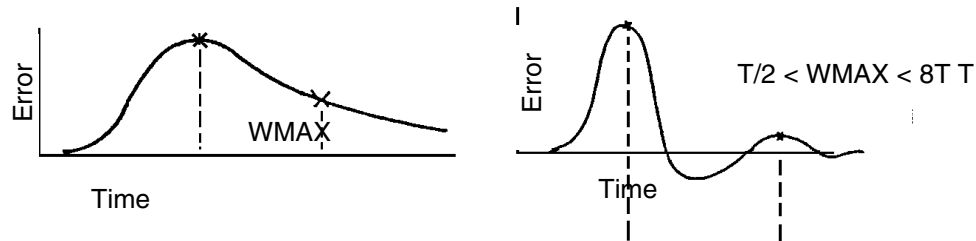

Figure 41. WMAX
3. WMAX* (Wait Max.). WMAX determines a window limiting the search from the second peak. WMAX should be selected so that the period ranges between $WMAX/8$ and $2 WMAX$. It is automatically determined by pretune for the existing operating condition but may need adjustment if the period changes significantly with operating condition. Graphical representation of WMAX is shown in left illustration below (T = period of oscillation, in right illustration in Figure 41). Final value of WMAX should be about 2 to 3 times I . Note that if WMAX is less than $T/2$, instability may result because response may be interpreted as over-damped (ENT = Error Overdamped). If WMAX is larger than $8T$, no corrective action will be taken (ENT = WMAX Error).